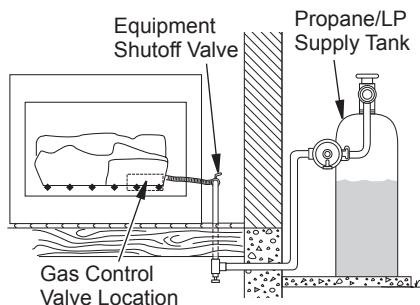

Figure 22- Checking Gas Joints (Propane/LP only)
3. Check all joints from gas meter to equipment shutoff valve for natural gas or propane/LP supply to equipment shutoff valve for propane/LP (see Figures 22 and 23). Apply noncorrosive leak detection fluid to all joints. Bubbles forming show a leak.
4. Check all joints from equipment shutoff valve to control valve for Manually-Controlled Models or to gas control for Remote-Ready Models (see Figures 22 and 23). Apply non-corrosive leak detection fluid to all joints. Bubbles forming show a leak.